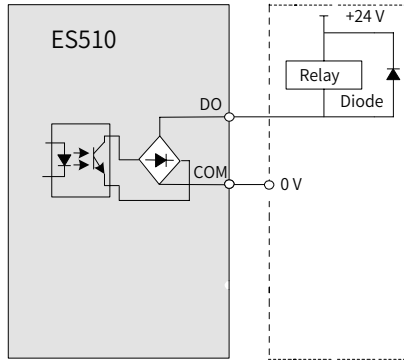

Figure 3-28 Wiring of the DO terminal
- ◆ Install the polarity of the snubber diode correctly, as shown in "Figure 3-28 Wiring of the DO terminal" on page 45. Otherwise, the 24 VDC power supply will be burnt out immediately once there is a digital output.